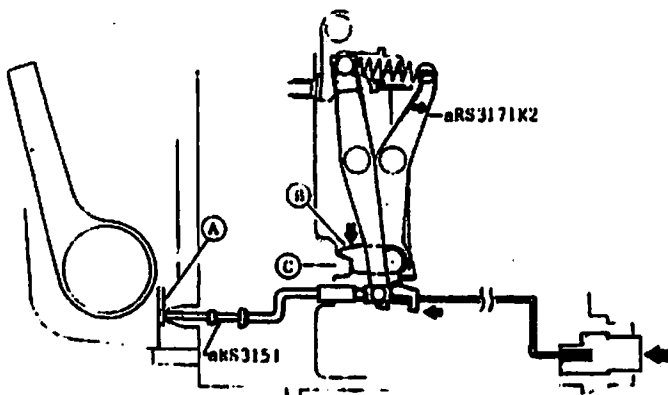

Fig. 79
- (2) When the film-loaded Roll film holder is not wound, Double exposure preventive plate sticks out and stops Coupling pin of Revolving adapter. (Fig. 79.)
- (3) In above condition, Spring (aRS3172) is extended by pushing the shutter button more deeply, and Stop plate B hits Body lug C. Consequently, shutter button can not be released and double exposure is prevented.